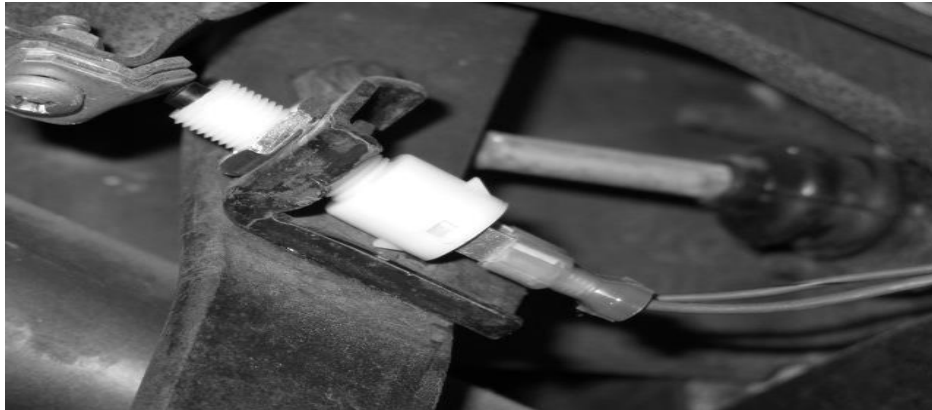

Figure 7-19 Brake Switch ('67-'77)
7.9.1 Route the BRAKE SWITCH wires #917 Brake Switch B+ (Red) and #918 Brake Switch Output (Red/Black) over the steering column and down to the Brake Switch located on the brake pedal. Leave enough slack in the wires to allow for the brake pedal movement. These wires **are not** polarity specific, in other words it does not matter which wires goes onto each side of the switch. **See Figure 7-19.**